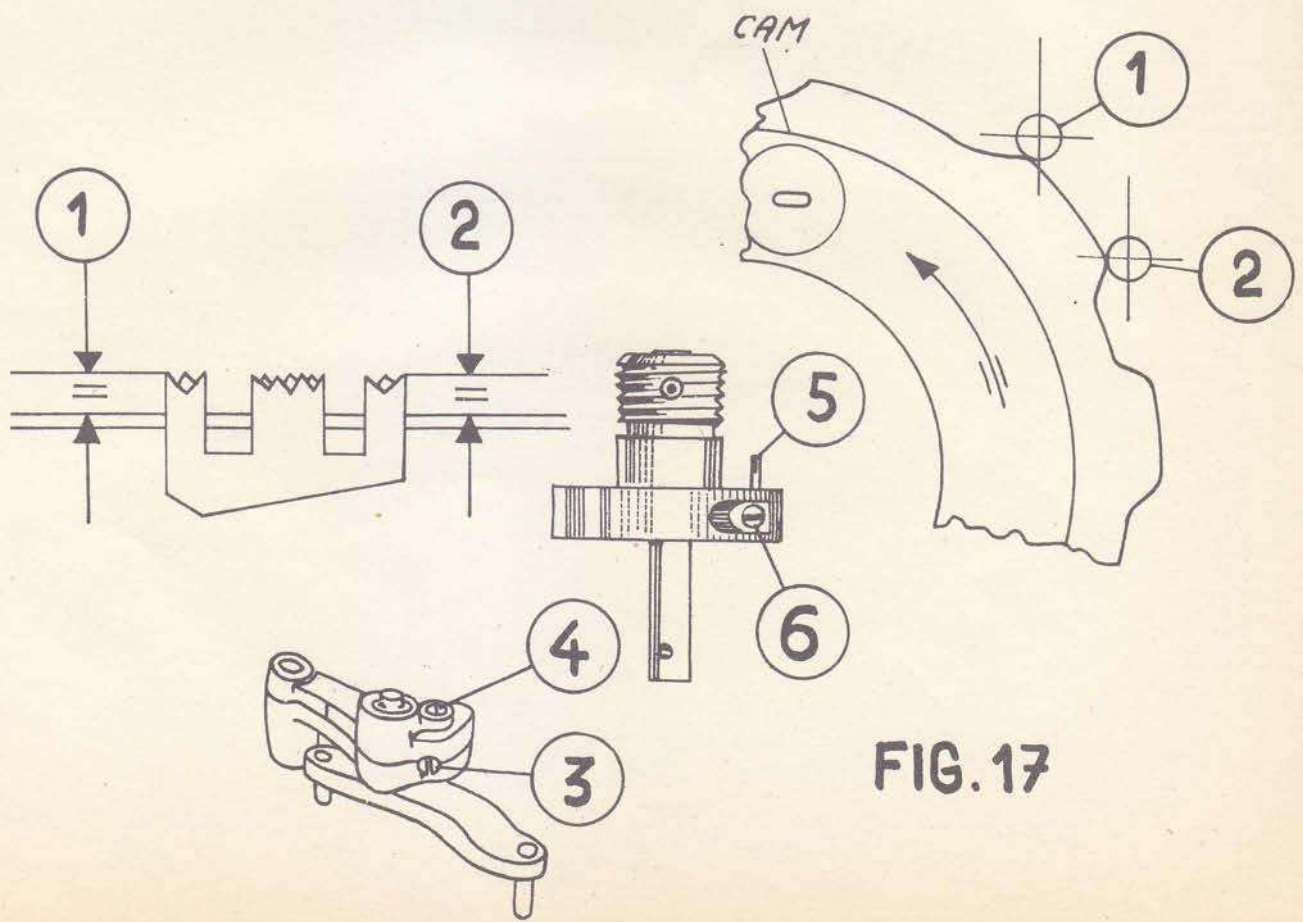

FIG. 17
- b) Run the machine and adjust the feed control key (3) (screw) in feed control lever (2) until the piece of paper or the piece of cloth no longer move. Be careful not to press too much against the feed control key when adjusting it, because otherwise you are liable to move the stitch length lever away from position "0" on the scale.
- c) Retighten black screw (1) in feed control lever (2) after this adjustment is made.
14. TIMING OF NEEDLE BAR SWING (for "Supermatic", Fig. 17)
15. ADJUSTMENT OF FULLY AUTOMATIC FEED CONTROL (for DOUBLE DISCS, Fig. 17)